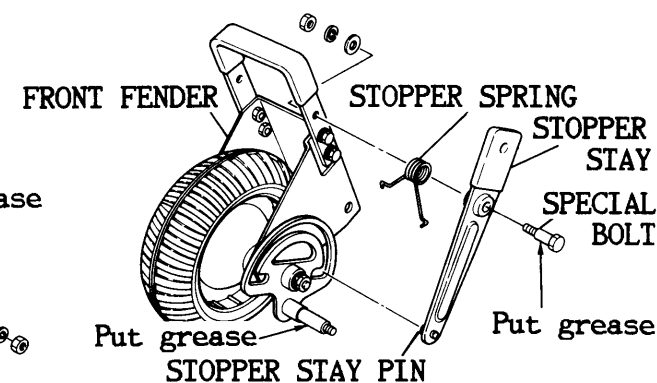

FIG. 4
4. Install special bolt, stopper stay and stopper spring and fix them with 8 mm washers and nut. (Fig.4)